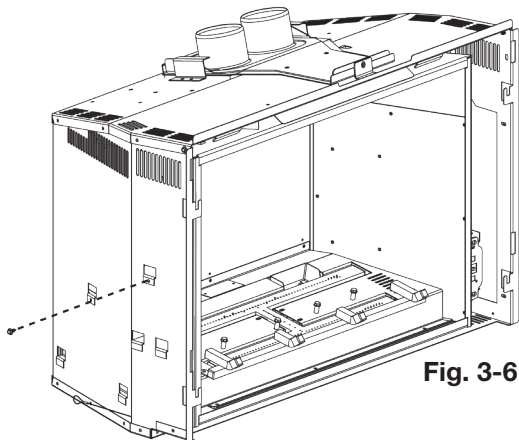

Fig. 3-6
2. Remove the 1 screw holding the bracket in place (**Fig. 3-6**). Lift the bracket up and out of the slots, lifting it through the opening between the firebox and the appliance's outer shell (**Fig. 3-7**).
5. Resecure the 1 screw to hold the bracket and receiver in place (**Fig. 3-6**).